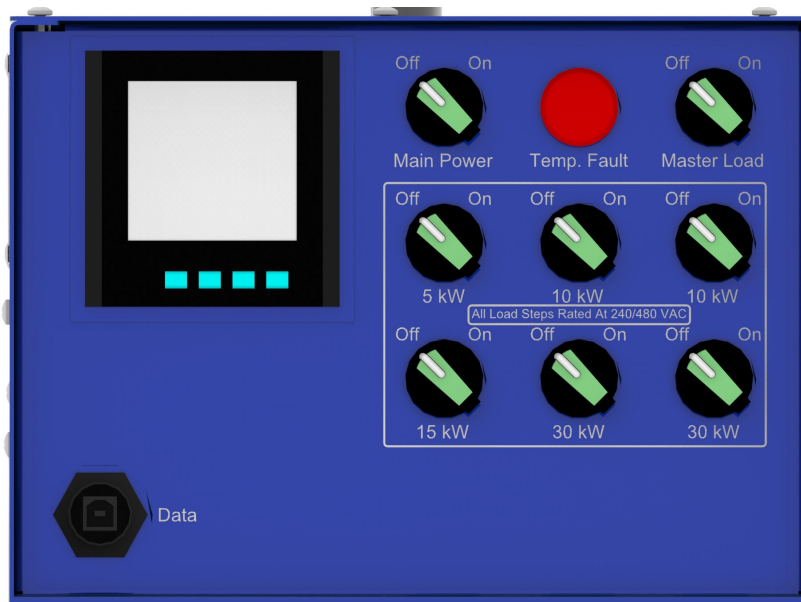

Figure 3. Switch Panel
3. Check the switch panel and move all switches to the OFF position. (see figure 3)